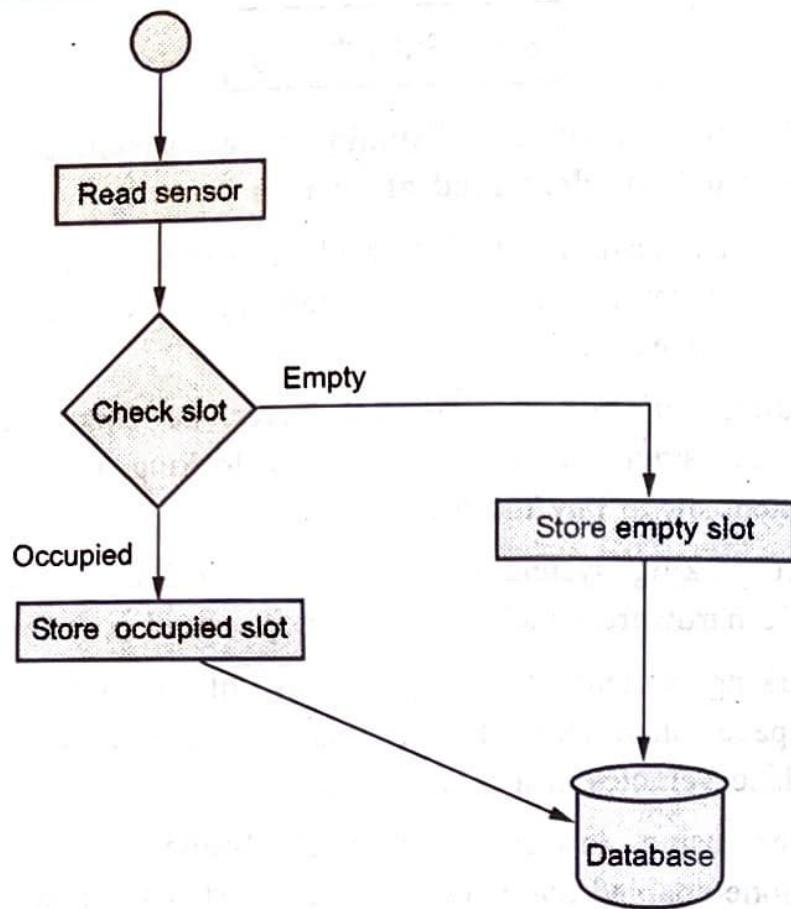

Fig. Q.21.1 Process specification for smart parking IoT system
- Local controller collect the information and send to server using Internet. Fig. Q.21.1 shows process specification for smart parking IoT system.